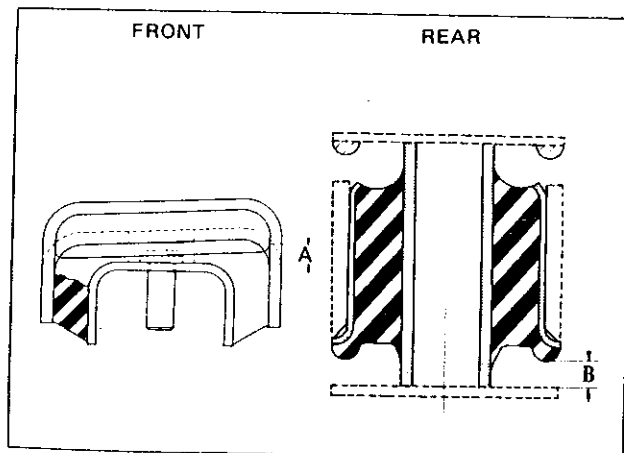

Fig. RA-7 Sectional view of the differential mount insulator
2. Replace the differential mount front insulator with new one, if the dimension "A" (Figure RA-7) is 9 mm (0.3543 in) or greater or 2 mm (0.0787 in) or smaller. (unloaded)
3. Replace the differential mount rear insulator with new one, if the dimension "B" (Figure RA-7) is less than 5 mm (0.1969 in). (unloaded)